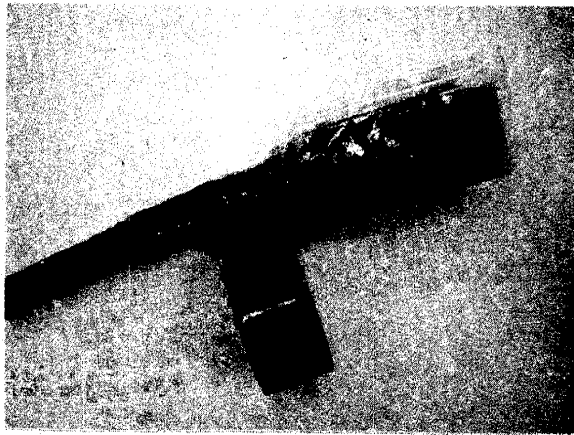

Figure 21
5.06 Bind open end of "Unipak" bag to B Service Wires using vinyl tape. Exercise care to prevent forcing any compound out of the "Unipak" bag to impair the taping operation and/or where it may get onto the hands etc. (See Figure 21).